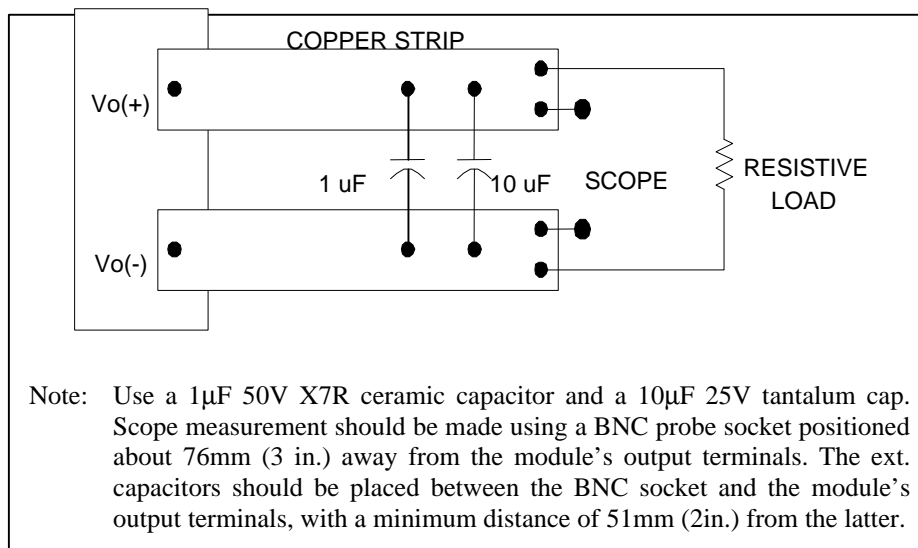

Figure 2. Peak to Peak Output Noise Measurement Setup.
5. Channel under test shall be set to full load with the other channel set to I_{O, min} - See Fig 2 for the recommended output ripple and noise test setup.